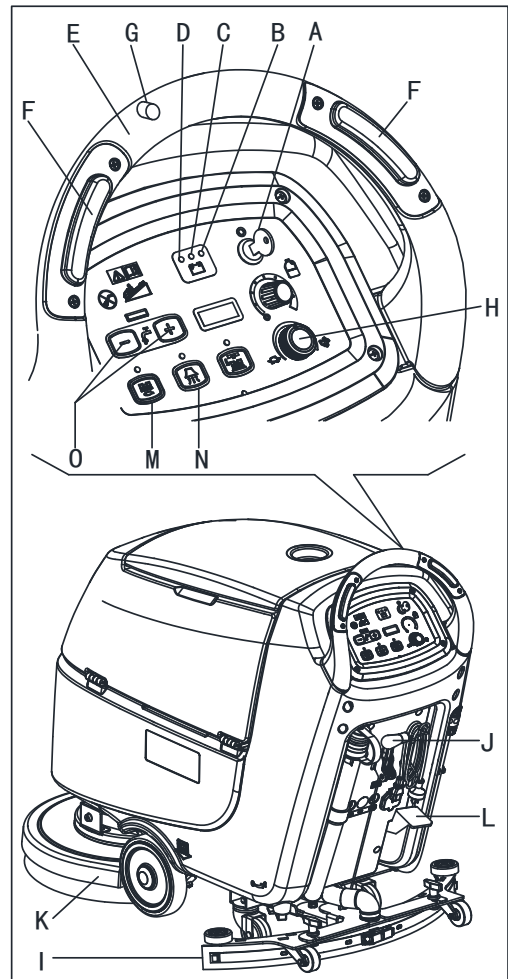

Figure 6
2. Insert the ignitionkey (A, Figure. 6) and turn it to "I". Check that the green warning light (B) turns on (charged battery). If the yellow (C) or red warning light (D) turns on, turn the ignition key back to "0" and charge the batteries (see the procedure in Maintenance chapter).
- By pushing it with the hands on the handlebar (E) (only for machine without traction).
- By pushing it with the hands on the handlebar (E) and pressing the switch (F) to move forward, or pressing the switch (F) together with the switch (G) to move backward (only for machine with traction). The forward speed can be adjusted with the adjuster (H).
4. Lower the squeegee (I) with the lever (J).
5. Lower the brush/pad-holder deck (K) by lifting the pedal (L).
6. Press the brush/pad-holder switch (M) and the vacuum system switch (N).
7. Press the washing water flow control switches (O) as necessary, depending on the type of cleaning to be performed.
- (only for machine without traction) by pushing the machine with the hands on the handlebar (E) and pressing the switch (F).
- (only for machine with traction) by pushing the machine with the hands on the handlebar (E) and by pressing the switch (F). If necessary, the forward speed can be adjusted with the adjuster (H).
2. While keeping both hands on the handlebar press the safety switch (F, Figure. 6), then maneuver the machine and start scrubbing/drying the floor.